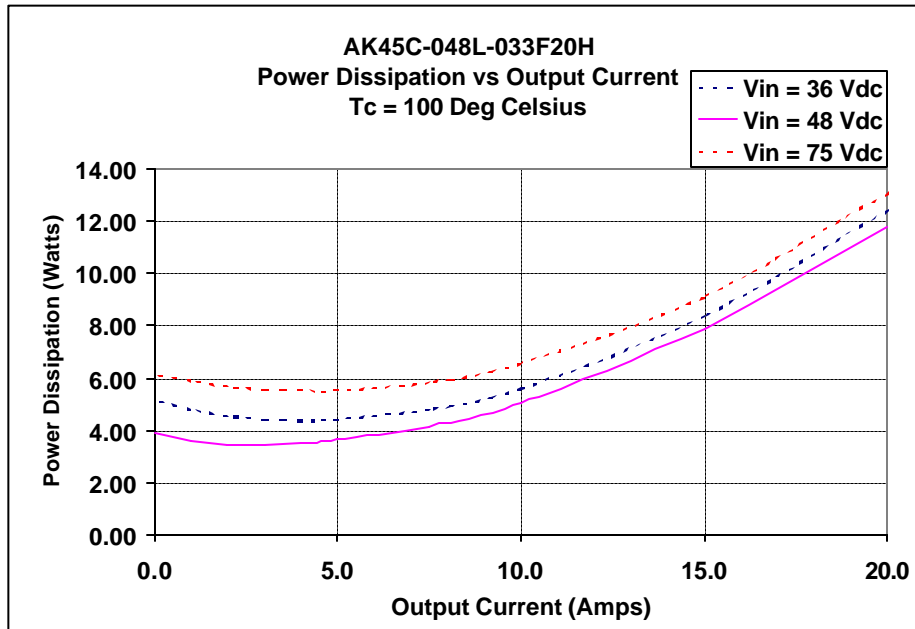

Figure 17. 033S Pwr. Diss. vs Load Current.
- Determine P_D (Figure 17): $P_D = \sim 8\text{ W}$.